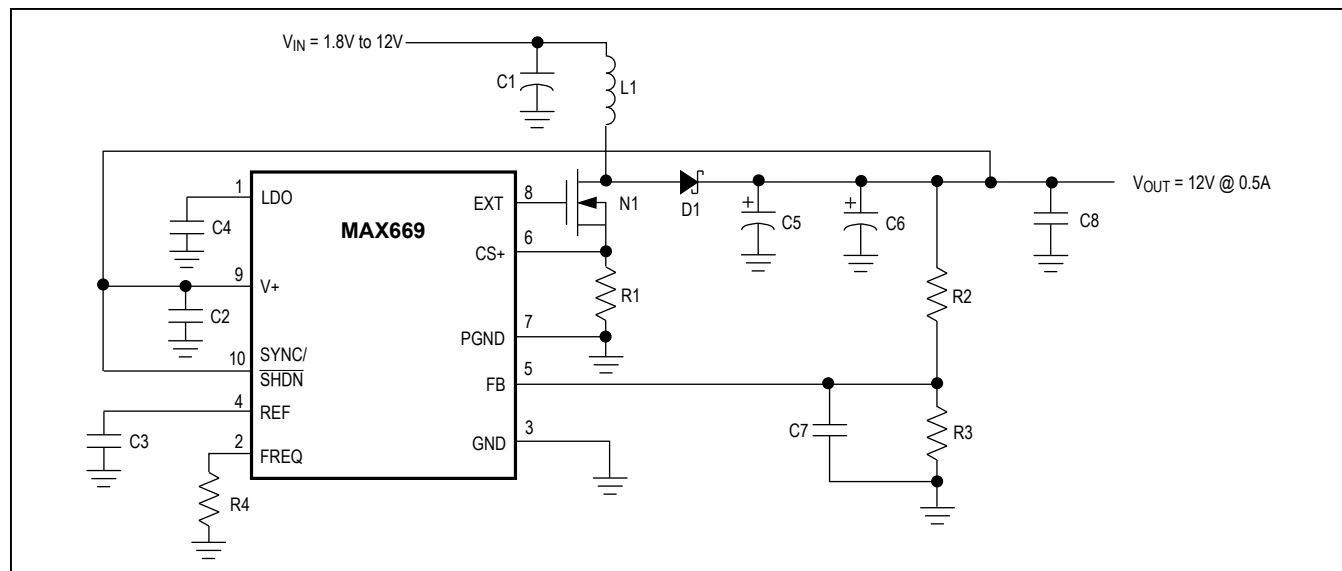
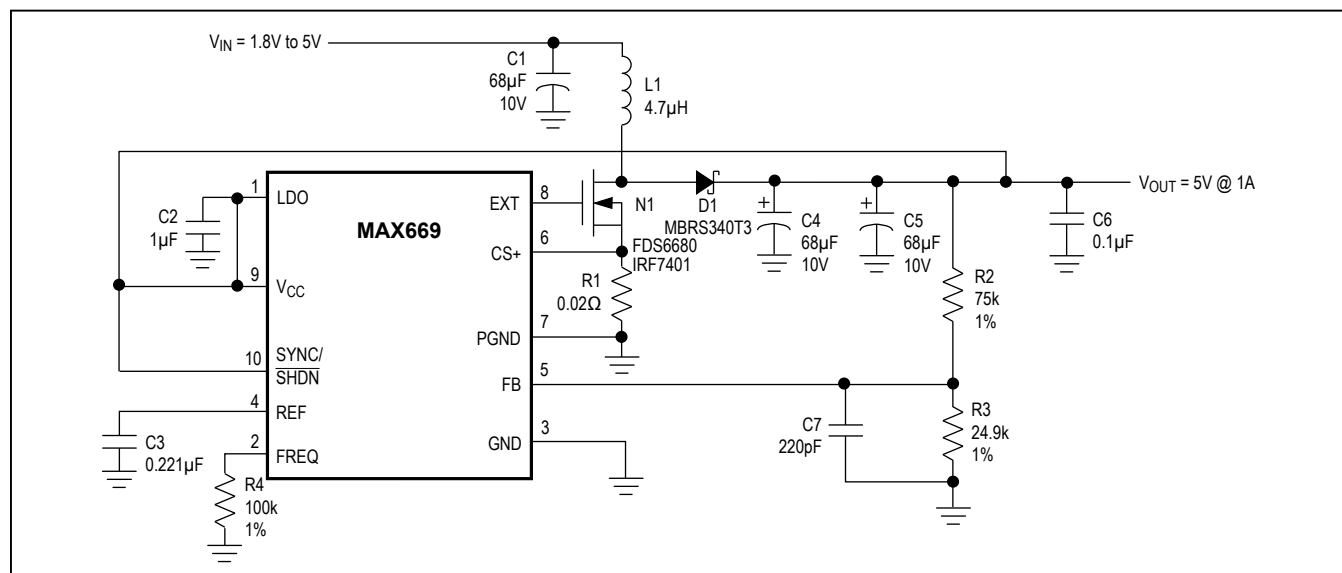
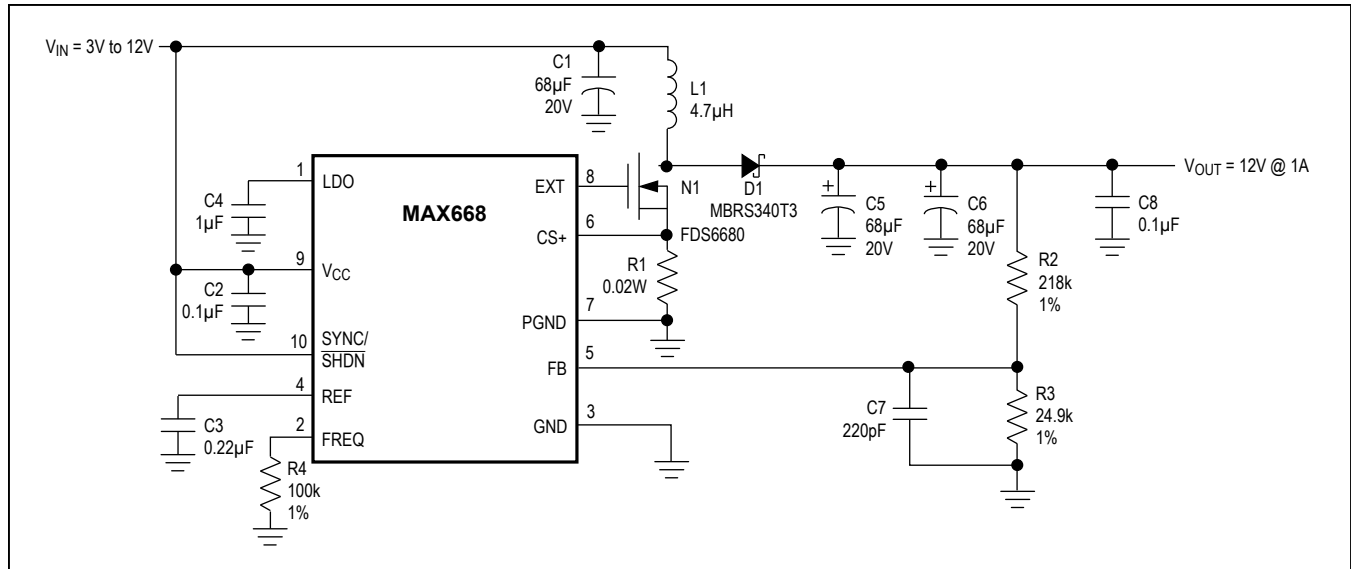
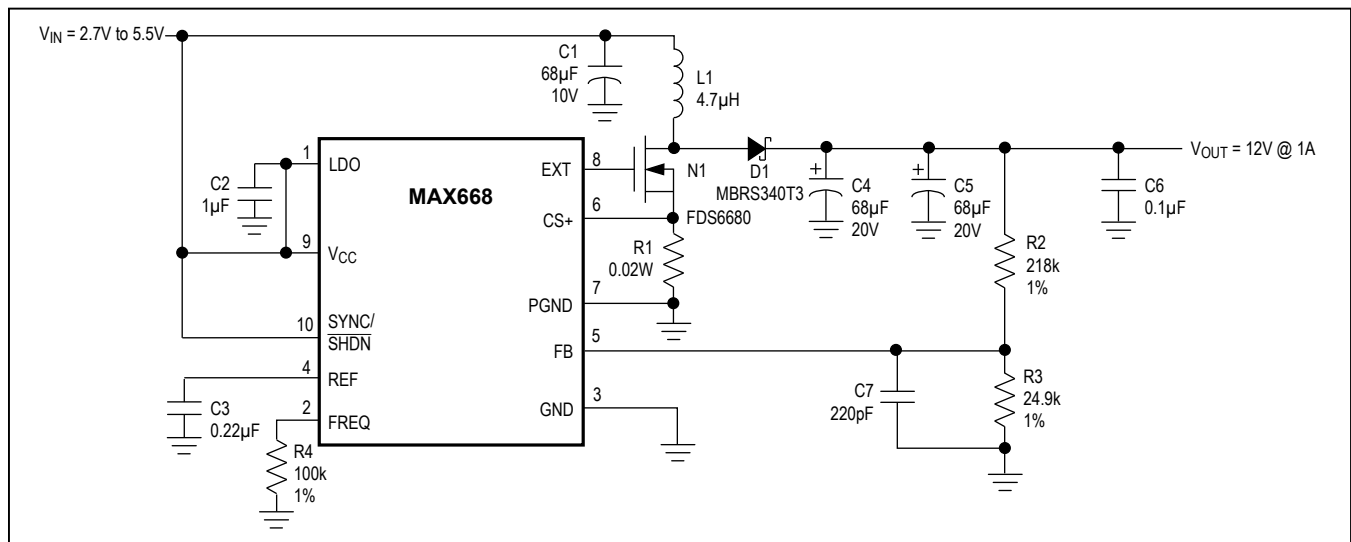

Figure 2. MAX669 High-Voltage Bootstrapped Configuration
Figure 3. MAX669 Low-Voltage Bootstrapped Configuration
Figure 4. MAX668 High-Voltage Non-Bootstrapped Configuration
Figure 5. MAX668 Low-Voltage Non-Bootstrapped Configuration
(Circuits of Figures 2, 3, 4, and 5; $T_A = +25^\circ\text{C}$; unless otherwise noted.)
V_{CC} and LDO allow a variety of biasing connections to optimize efficiency, circuit quiescent current, and full-load start-up behavior for different input and output voltage ranges. Connections are shown in Figure 2, Figure 3, Figure 4, and Figure 5. The characteristics of each are outlined in Table 1.
With V_{CC} connected to V_{OUT} , as in Figure 2, EXT voltage swing is 5V when V_{CC} is 5.2V or more, and $V_{CC} - 0.2V$ when V_{CC} is less than 5.2V. If the output voltage does not exceed 5.5V, the on-chip regulator can be disabled by connecting V_{CC} to LDO (Figure 3). This eliminates the LDO forward drop and supplies maximum gate drive to the external FET.
With non-bootstrapped operation, the IC is powered from the input voltage (V_{IN}) or another source, such as a logic supply. Non-bootstrapped operation (Figure 4) is recommended (but not required) for input voltages above 5V, since the EXT amplitude (limited to 5V by LDO) at this voltage range is no higher than it would be with bootstrapped operation. Note that non-bootstrapped operation is *required* if the output voltage exceeds 28V, since this level is too high to safely connect to V_{CC} . Also note that **only the MAX668 can be used with non-bootstrapped operation**.
If the input voltage does not exceed 5.5V, the on-chip regulator can be disabled by connecting V_{CC} to LDO (Figure 5). This eliminates the regulator forward drop and supplies the maximum gate drive to the external FET for lowest on-resistance. Disabling the regulator also reduces the non-bootstrapped minimum input voltage from 3V to 2.7V.
* For standard step-up DC-DC circuits (as in Figures 2, 3, 4, and 5), regulation cannot be maintained if V_{IN} exceeds V_{OUT} . SEPIC and transformer-based circuits do not have this limitation.
The output voltage is set by two external resistors (R_2 and R_3 , Figure 2, Figure 3, Figure 4, and Figure 5). First select a value for R_3 in the 10kΩ to 1MΩ range. R_2 is then given by:
where $R2$ and $R3$ are the feedback resistors (Figure 2, Figure 3, Figure 4, and Figure 5). If the calculated value for C_{FB} results in a non-standard capacitance value, values from 0.5 C_{FB} to 1.5 C_{FB} will also provide sufficient compensation.
In non-bootstrapped configurations (Figure 4, and Figure 5), the MAX668 can start up with any combination of output load and input voltage at which it can operate when already started. In other words, there are no special limitations to start up in non-bootstrapped circuits.
Figure 5 shows the MAX668 operating in a 5V to 12V boost application. This circuit provides output currents of greater than 1A at a typical efficiency of 92%. The MAX668 is operated in non-bootstrapped mode to minimize the input supply current. This achieves maximum light-load efficiency. If input voltages below 5V are used, the IC should be operated in bootstrapped mode to achieve best low-voltage performance.